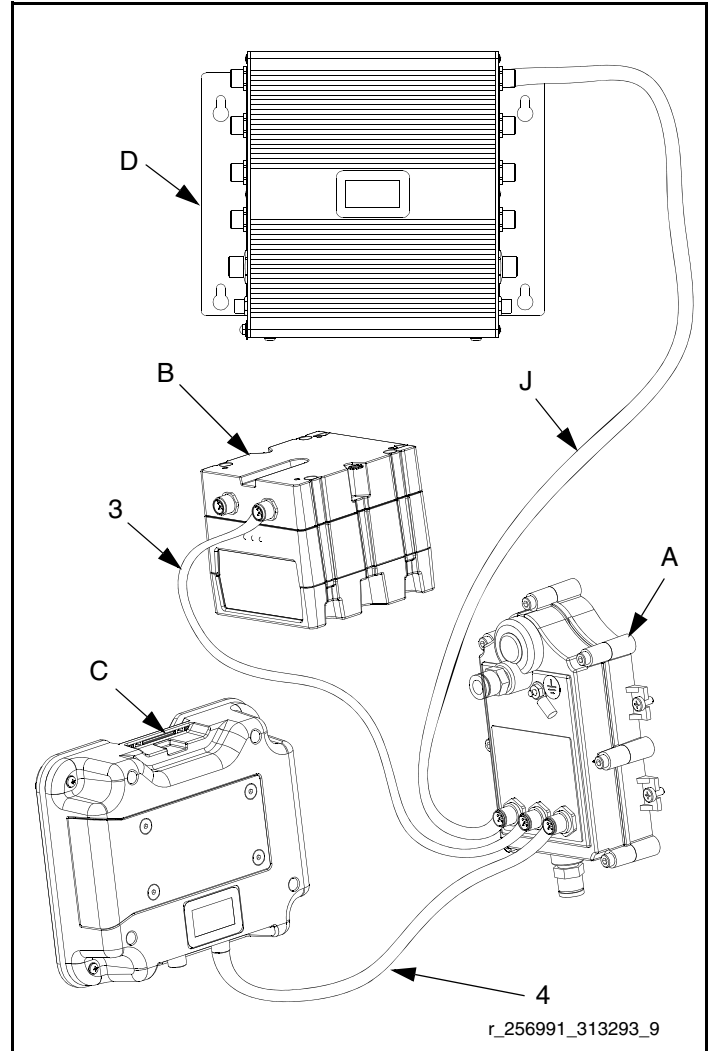

FIG. 1: Typical Installation
3. Disconnect power supply cable (G) from fluid control module (D).
4. Disconnect power cable from power filter (F) and from terminal blocks in junction box (not shown).
5. Loosen mounting screws and remove power supply (E) and filter (F) from control box (CB).
6. Disconnect CAN cable (H) from USB front CAN connector and display module (C). See FIG. 1 on page 3.
Use reference labels located near CAN connectors to properly connect components that are connected with the alternator. Each CAN cable is marked with the part number. The ends with the blue-colored sockets attach to the alternator. See FIG. 1 on page 3 for **Alternator Conversion Kit Cable Connections**.